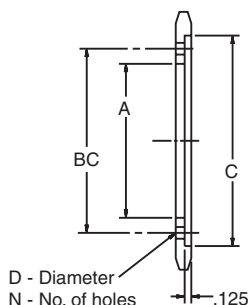

Figure 2
2. Dimensions of drive member and mounting bolts are listed (Figure 2).